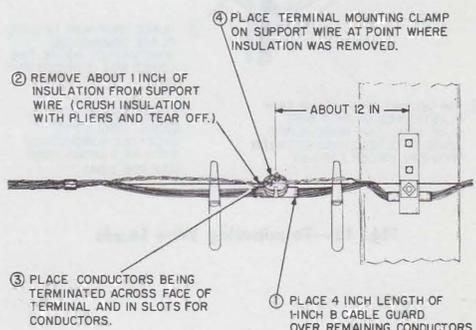
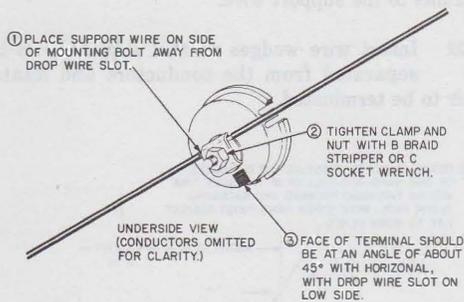

Fig. 10—Attaching 105A Wire Terminal
Fig. 11—Attaching Support Wire
8.03 Attach 105A wire terminal (Fig. 10) to wire pair and secure to support wire as shown in Fig. 11.